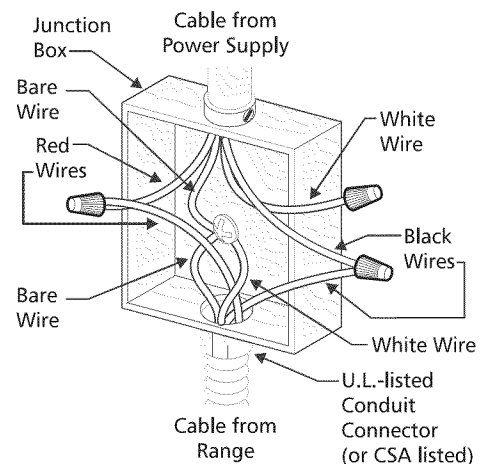

Figure 7 – 4-WIRE ELECTRICAL SYSTEM
2. Where local codes DO NOT permit, or if connecting to a 4-wire electrical system, DO NOT connect the cabinet-grounding conductor to the neutral (white) junction box wire (see Figure 7)